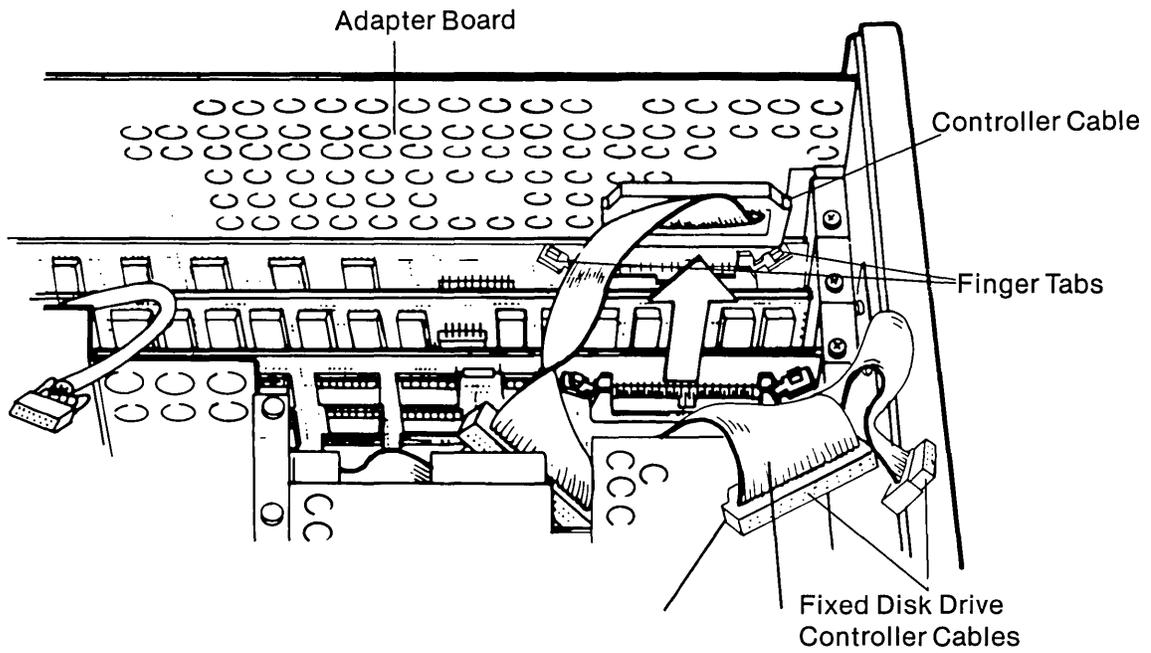

Figure 10-11. Disconnecting the Signal Cables From the Fixed Disk Adapter Board.
- 4 Disconnect the two (2) fixed disk drive controller cables from the fixed disk adapter board by pressing on the finger tabs located on either side of the connectors (see Figure 10-11).